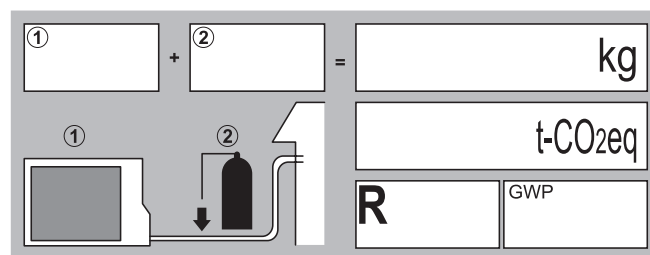

fig. 34 - Additional filling label
**Indicate on the label present on the outdoor unit, the amount of gas (Factory + additional filling) see fig. 34.**